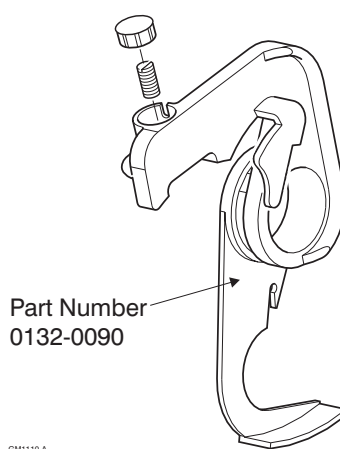

Figure A.1 New modified Syringe Size Sensor flag
- SSF, *part number 0132-0090* (see *Figure A. 1*)